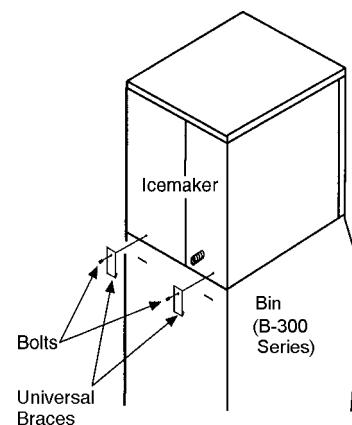

Fig. 2
- 4) Secure the icemaker to the Storage Bin, by using the two universal braces and two bolts provided. See Fig. 2.